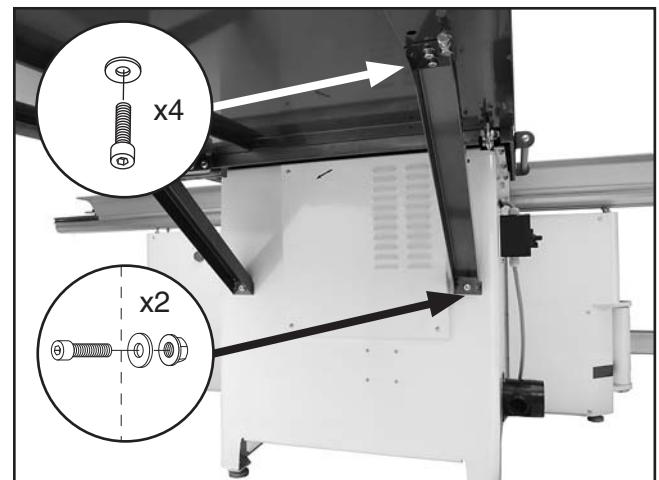

Figure 16. Support brackets.
5. Attach the support brackets beneath the extension table with six M8-1.25 x 16 cap screws, six 8mm flat washers, and two M8-1.25 flange nuts. Do not yet fully tighten these fasteners (**Figure 16**).